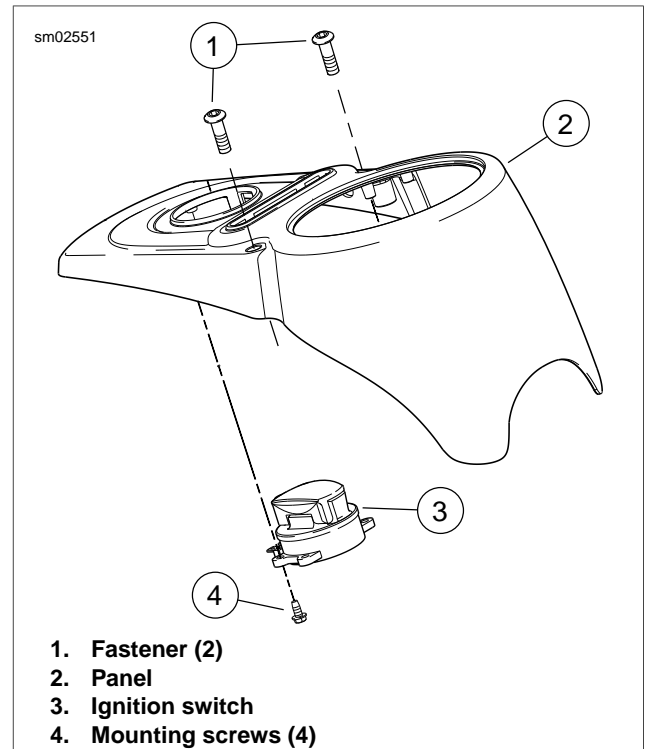

Figure 8-16. Ignition Switch: FXDWG, FXDC, FXDF
3. See Figure 8-16. Remove fasteners (1) from instrument panel (2) and remove panel. Note position and color of the switch wire connectors. Disconnect wires.
4. Remove mounting screws (4). Replace switch (3).